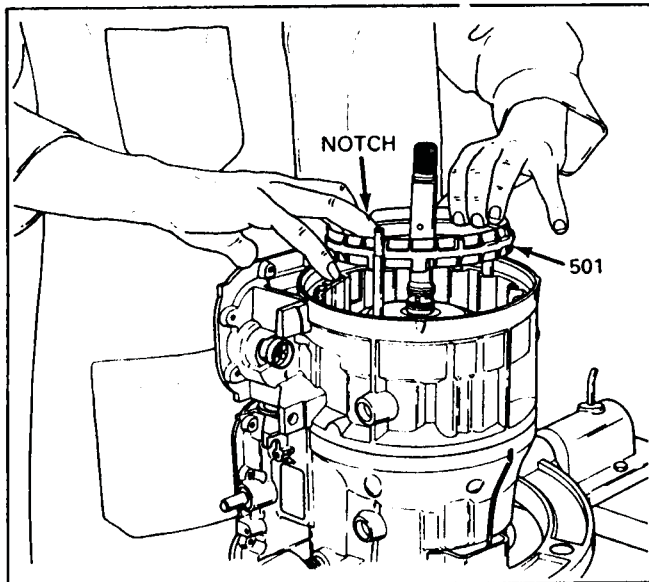

Figure 108
33. Install the fourth clutch retainer, as shown in Figure 108, with the notch facing up and towards the valve body.